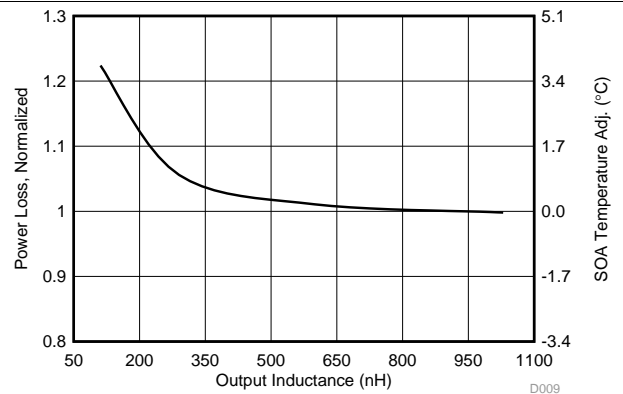

Figure 8. Normalized Power Loss vs. Output Inductance
- Normalized Power Loss for output inductor ≈ 1.01 (Figure 8)
- SOA adjustment for output inductor $\approx 0.18^\circ\text{C}$ (Figure 8)